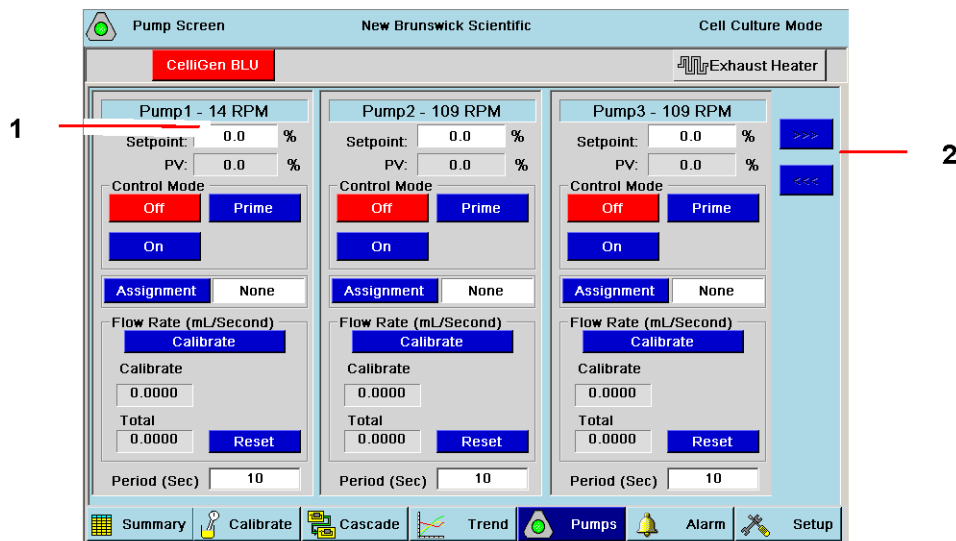

Fig. 57: Setting Pump Setpoint
1. Open the PUMPS screen. Gauges for Pumps 1-3 are displayed in this screen (see Fig. 57 on p. 70). If you have one or more additional pumps, press the >>> button to continue past Pump 3. If you have a stacked pump, it will be governed by settings for its base pump.